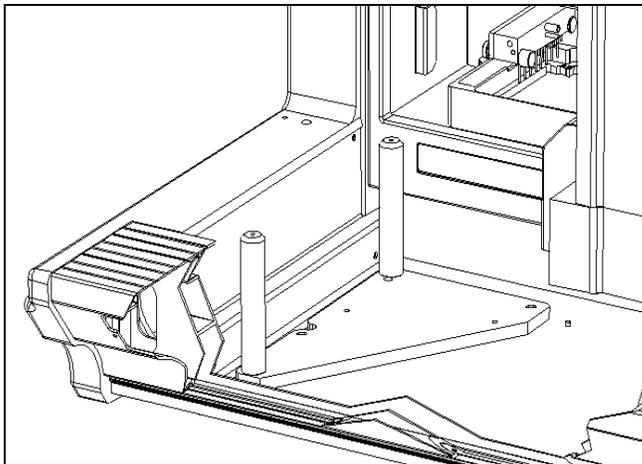

Figure 3-1 Positioning the Workspace Fixture - Left Side of DSX Workspace
- 1 Remove all components and racks from the workspace area and place the Calibration Jig (Part No. WAFIX-003) onto the workspace at the left-hand end. Make sure that the holes and pins align. The pillars on the plate should be in the back-left and front-left corners of the workspace area on the *DSX*, as shown in Figure 3-1.